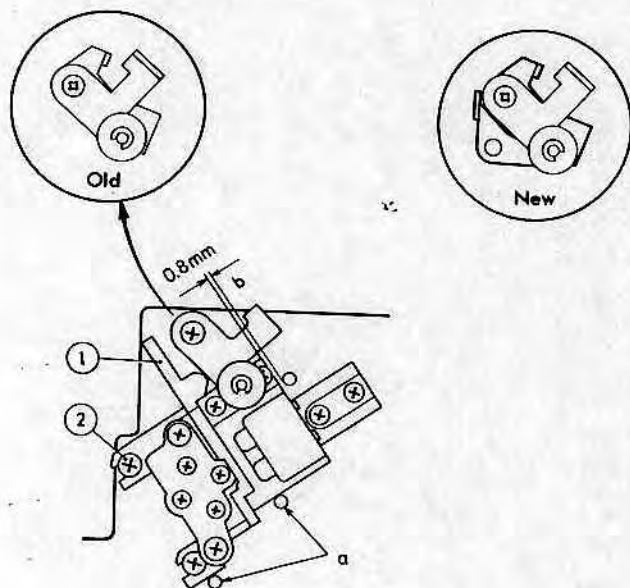
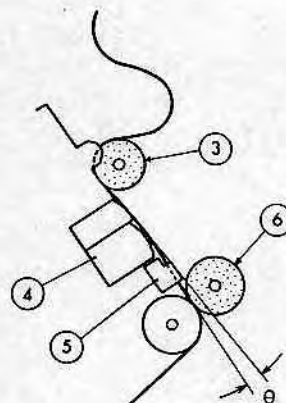

FIG. 20
FIG. 21
ATTACHING: (Refer to Fig. 20 &amp; 21)
1. Put the (1) on the sound frame as shown in Fig. 20. Then fix the (1) tentatively with (2)x3 in place where the (1) not only contacts with 'a' points but is away by 0.8mm from 'b' point.
2. Adjust the head position so that the film runs straightly from (3) toward (4).
3. Locate the (1) as shown in Fig. 21 and tighten it. Fig. 21 shows the film should pass not along the extension line but away from the line by  $0^\circ$ . The film shouldn't touch the (5) except (5)'s side surface and the (6) shouldn't touch the (5).